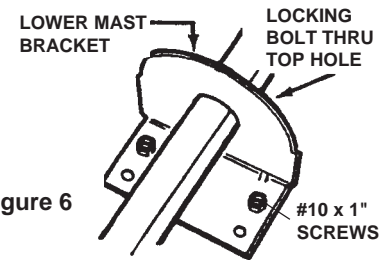

Figure 6
**STEP 13.** Slide antenna assembly down thru mast brackets. Insert locking bolt thru top hole in mast so it will be above lower mast bracket. See Figure 6. Antenna should rest on locking bolt.